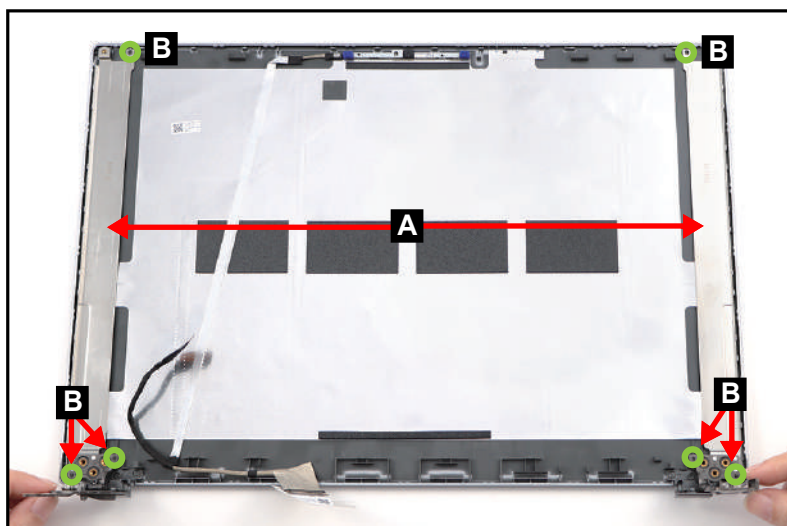

Figure 3-87. LCD Hinges Removal
2. Lift the LCD hinges (A) to release them from the guide pins (B) (Figure 3-87). Then remove the LCD hinges.